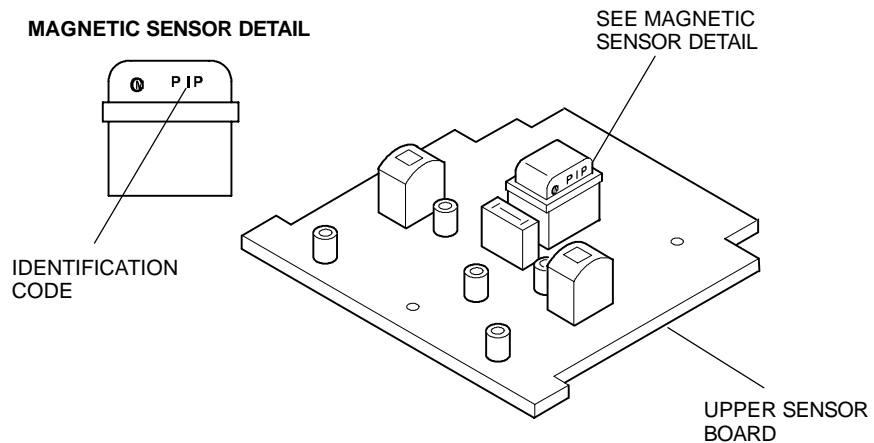

Figure 1-5. Magnetic Sensor.
The magnetic sensor is calibrated by recording the printed code letter (see Figure 1-5) from the sensor into bill acceptor memory. To calibrate the magnetic sensor use the following procedure.
1. Record the code letter from the magnetic sensor (see Figure 1-5).